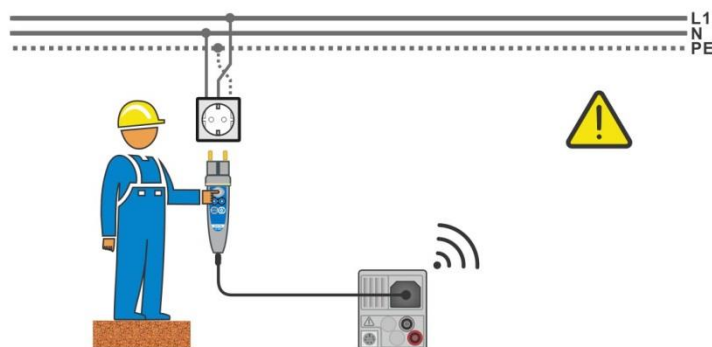
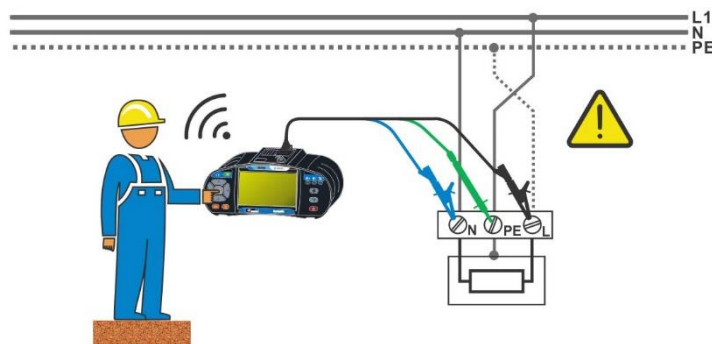

Figure 1.1: Reversed L and PE conductors (plug commander)
Figure 1.2: Reversed L and PE conductors (application of 3-wire test lead)
- › Connect test leads to the object under test, see **Figure 1.1** and **Figure 1.2**.